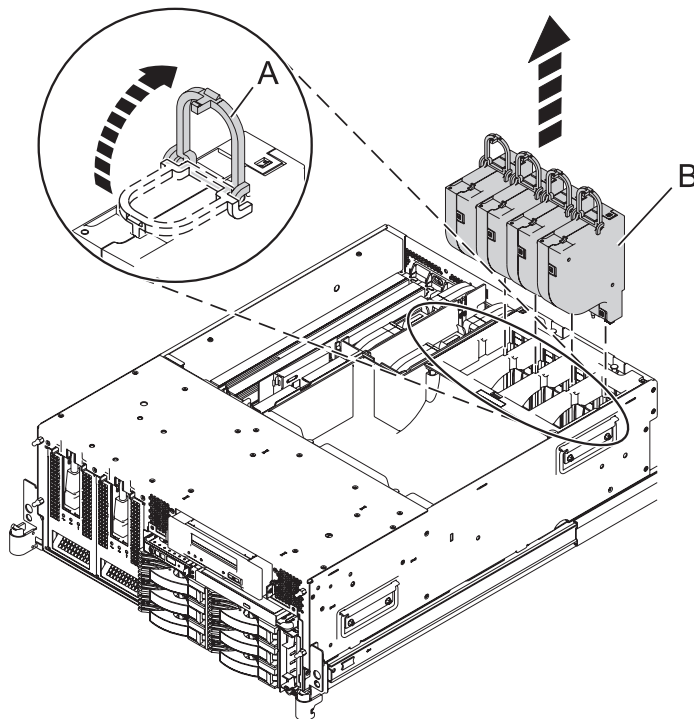

Figure 14. Removing the fans
6. Remove the fans by lifting each of the fan pull tabs (**A**) and lifting the fans (**B**) out of the system as shown in Figure 14.